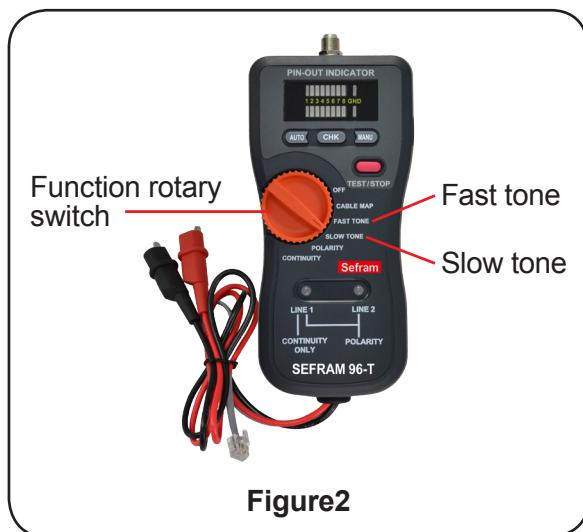

Figure2
- Users can select a fast dual tone or a slow dual tone by the function rotary switch. (See Figure 2)